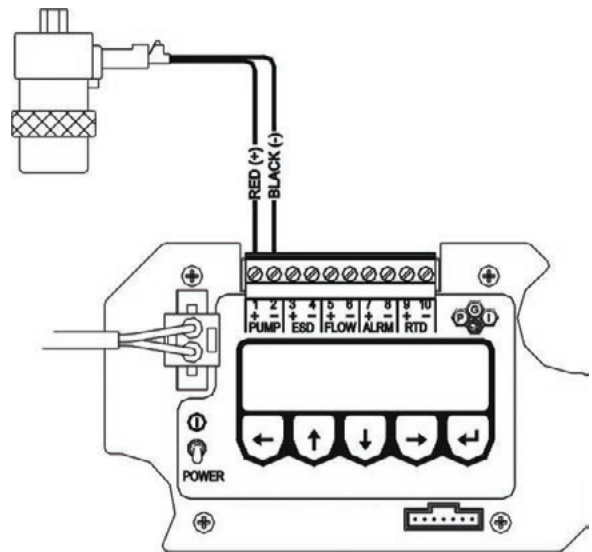

Figure 8: Pump Terminals
A. PUMP Terminals 1 and 2 (refer to Figure 8)